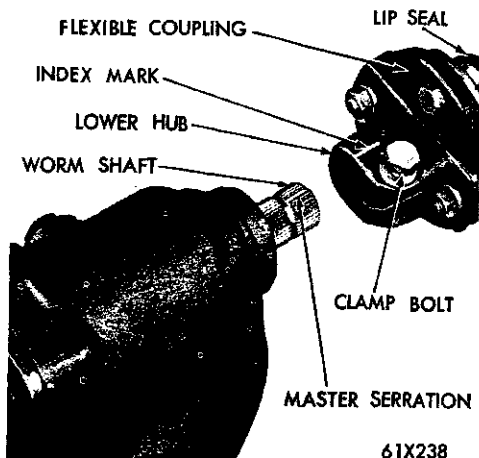

Fig. 14—Aligning the Steering Gear with the Flexible Coupling
(1) Inspect the steering gear from center by rotating the worm shaft from one end of its travel to the other while counting the number of turns. Turn the worm shaft back one half of the full number of turns. This is the exact center of travel.
(2) Locate the master spline in the outer row of serrations on the worm shaft. Mark the master spline.
(3) Enter the steering gear into the engine compartment.
(4) Align the index mark on the outside of the flexible coupling hub with the master spline on the steering worm shaft (Fig. 14).
(5) Slide the coupling on the worm shaft and install the gear housing to frame side rail attaching the bolts and nuts.
(6) Tighten the steering gear housing to frame bolts evenly to 50 foot-pounds torque.